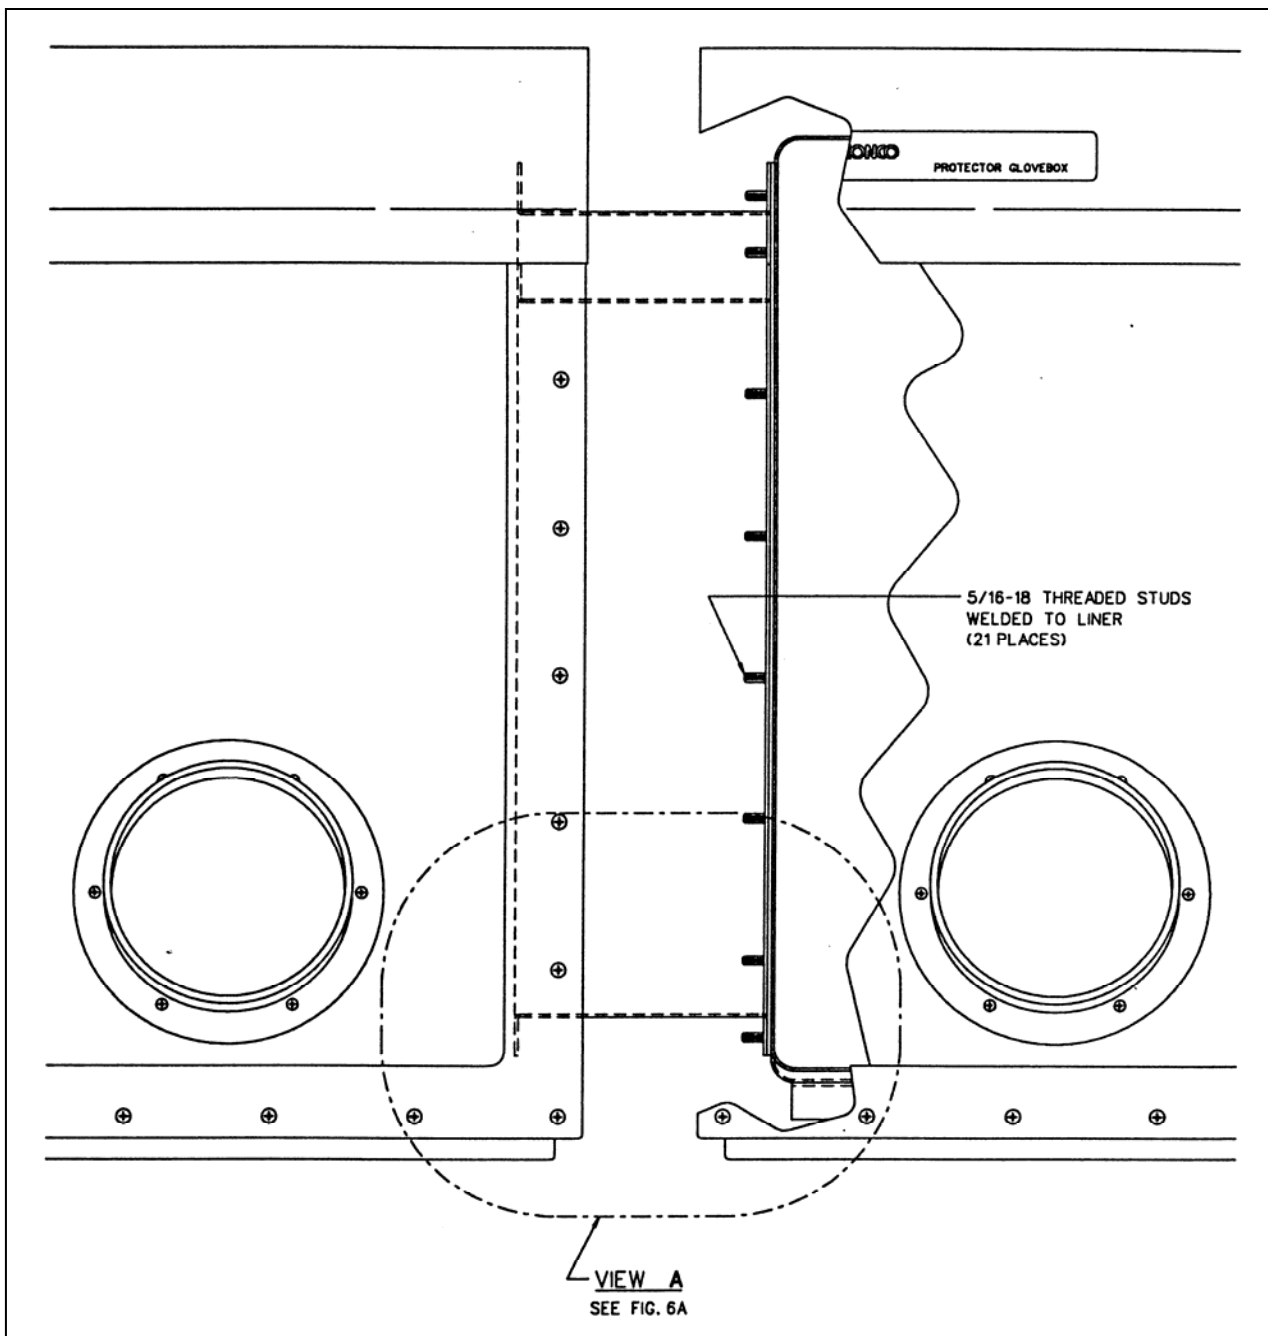

Figure 6
Step 3: Carefully slide the two glove box modules together, taking care to guide the threaded studs into the holes in the flange of the connecting bridge. See Figure 6 and 6A